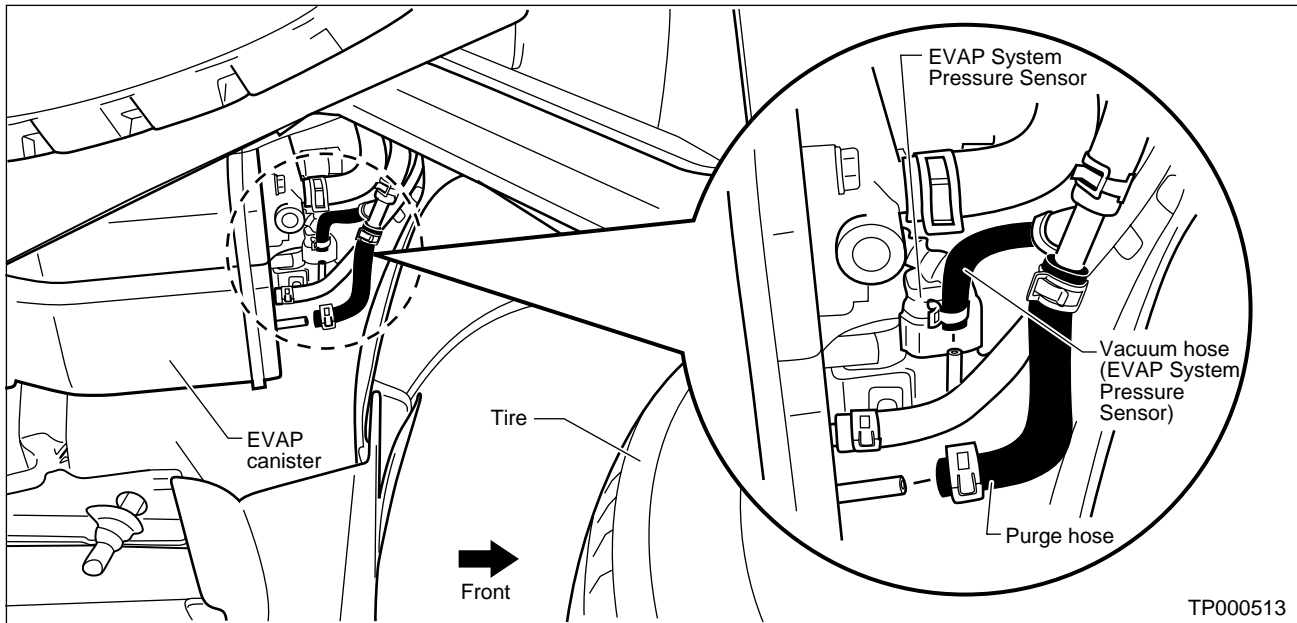

Figure 3
1. Disconnect the vacuum hose from the EVAP System Pressure Sensor (see Figure 3).
2. Disconnect the Purge hose from the EVAP canister port labeled "Purge" (see Figure 3).